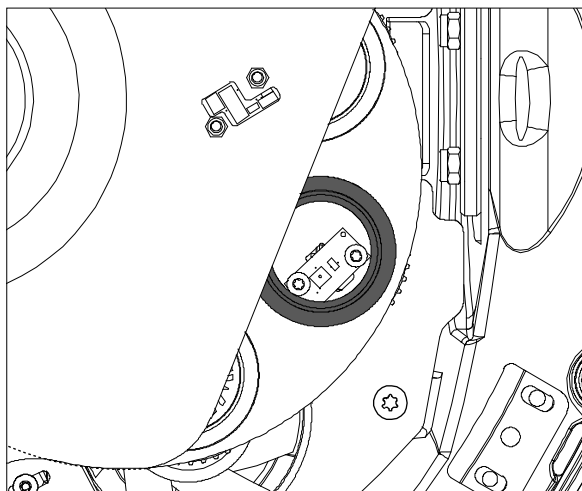

Figure 18: Turn the gobo to the position which is to be replaced
2. Turn the gobo wheel until the desired gobo wheel is accesible (see figure 18).